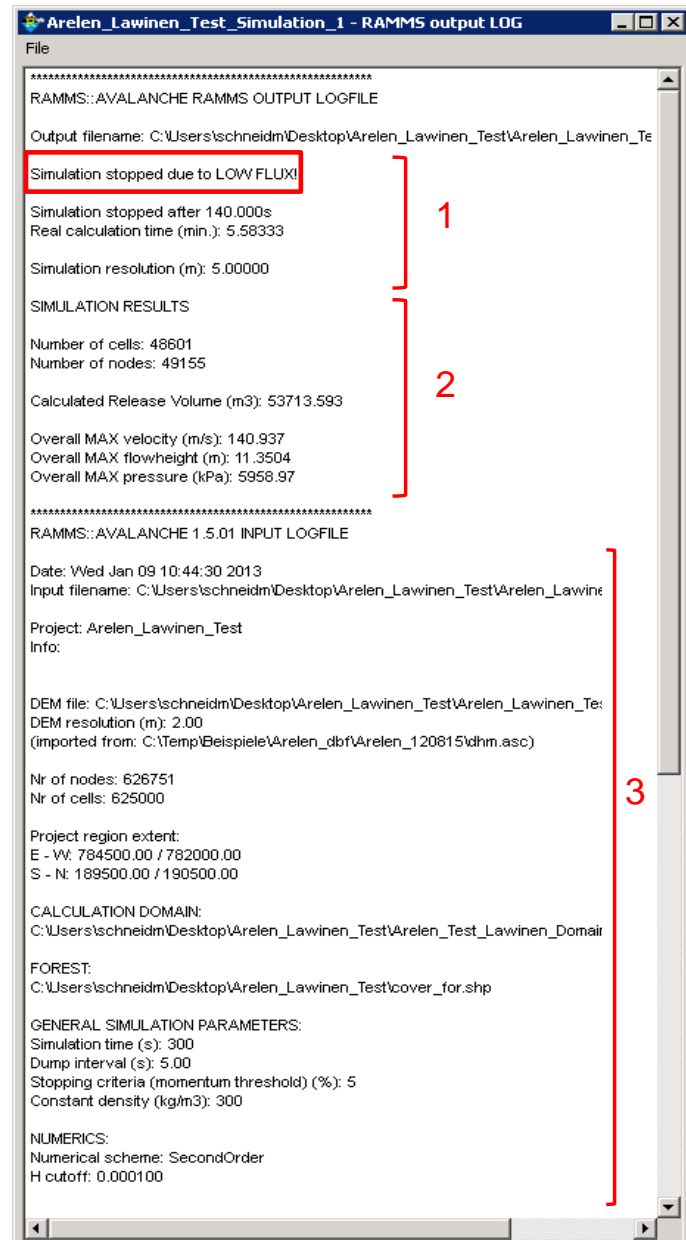

Figure 4.36: Output Logfile.
- Once it's finished, the simulation as well as the output logfile (see Fig. 4.36) are opened in RAMMS. If you ran the simulation in background mode, you have click on any button to finish the calculation. Afterwards the simulation is opened in RAMMS.
Once a scenario within a specific project is calculated it is possible to open the *output logfile* (in output mode) including project settings and information as well as calculation specifications. You can open the project's output log with *Project*→*Output Log File*. A window as shown in Fig. 4.36 opens. This window provides information about your project and is the first thing to look at after running a simulation to check your simulation results.